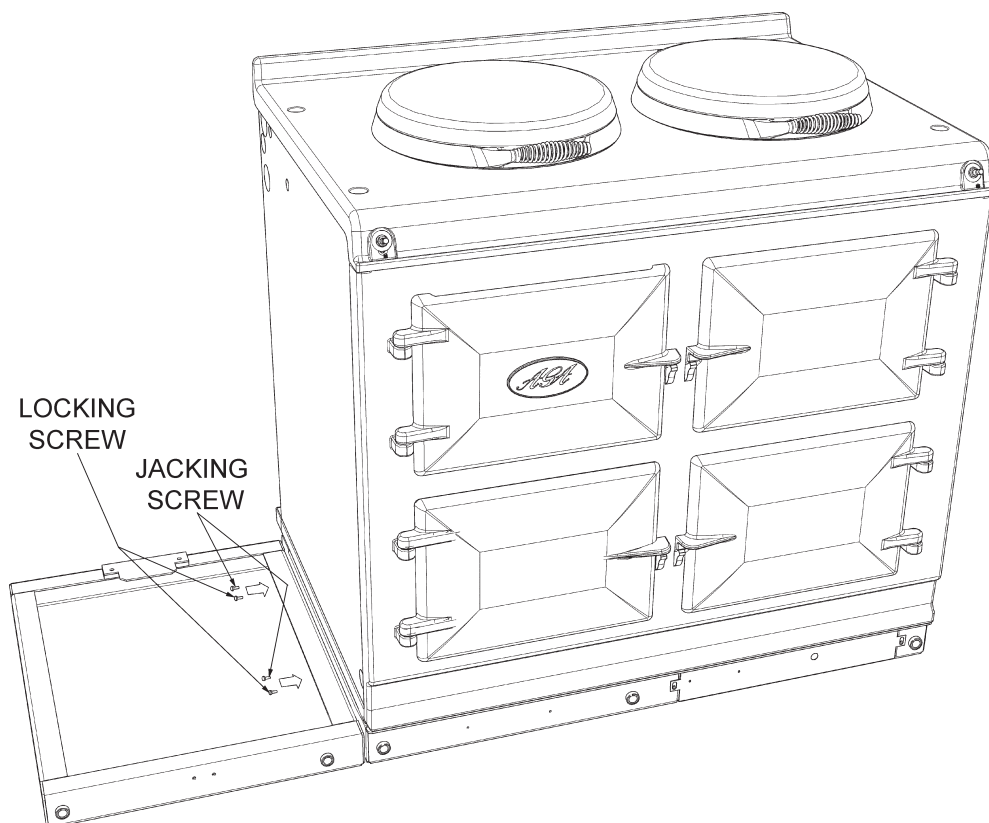

Fig. 17
3. Attach hotcupboard plinth to the AGA Dual Control plinth using M6 screws and washers provided (See Fig. 17).